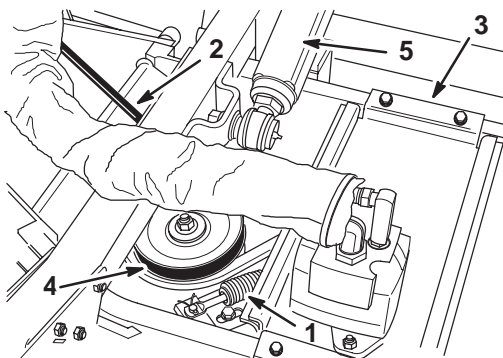

Figure 2
2. Remove flange head screws securing gearbox plate and separate plate and drive motor assembly from the deck (Fig. 2 & 3). Be careful not to bend, twist, kink or damage flexible hydraulic lines.
3. Remove hex head screws and flange locknuts securing each lift arm to the castor arm and separate from the arm (Fig. 2).
19. Tighten (4) capscrews securing slide plate to motor mount.
21. Secure each lift arm to the castor arm with hex head screws and flange locknuts (Fig. 2).
24. Remove (4) capscrews (8) washers and nuts securing slide plate to motor mount.
25. Remove slide bar, (2) springs and spring holders from slide plate rods. Remove slide plate/motor assembly from motor mount while removing belt from drive pulley.
26. Remove hex head screws and flange locknuts securing each lift arm to the castor arm and separate from the arm (Fig. 2).
39. Tighten (4) capscrews securing slide plate to motor mount.
41. Secure each lift arm to the castor arm with hex head screws and flange locknuts (Fig. 2).